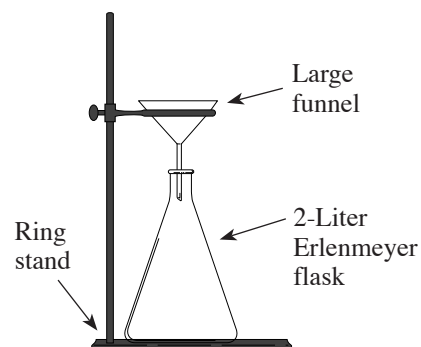

Figure 1.
1. Prepare a 5% solution of sodium hydroxide solution by dissolving 5 g of sodium hydroxide pellets in approximately 90 mL of distilled or deionized (DI) water. Once dissolved, dilute the solution to a final volume of 100 mL with DI water.
4. Set up the demonstration equipment as shown in Figure 1.